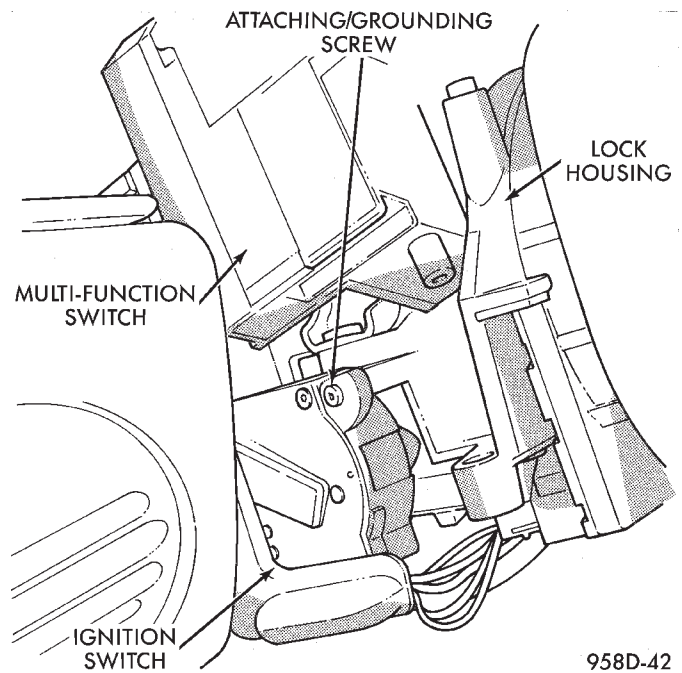
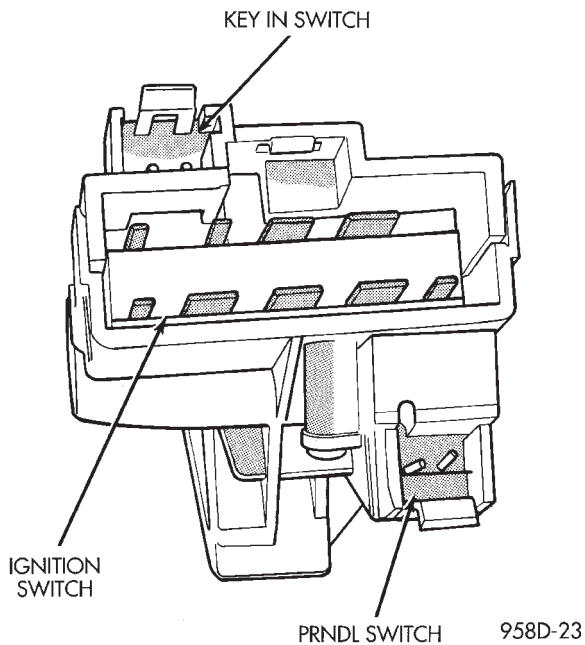
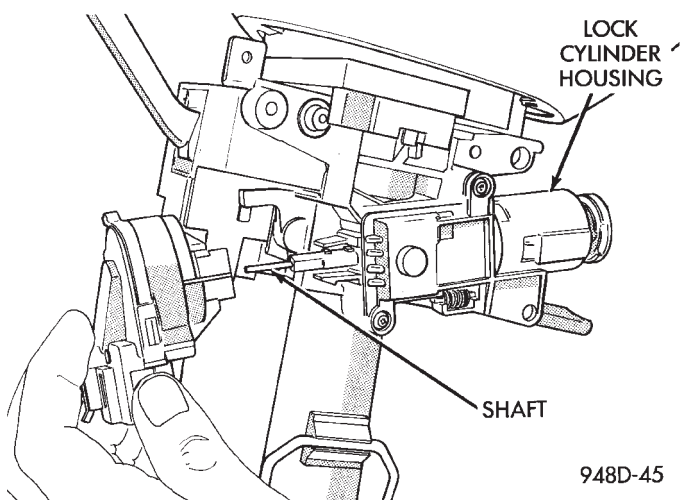

Fig. 60 Ignition Switch
Fig. 61 Ignition Switch Connectors
Fig. 62 Ignition Switch Installation
(13) Disconnect electrical connectors from ignition switch (Fig. 60) and (Fig. 61).
(14) Remove ignition switch mounting screw (Fig. 60) with a #10 Torx® tamper proof bit.
(1) Ensure the ignition switch is in the RUN position and the actuator shaft in the lock housing is in the RUN position.
(2) Carefully install the ignition switch. The switch will snap over the retaining tabs (Fig. 62). Install mounting screw (Fig. 60).
(3) Install electrical connectors to ignition switch.
(4) Install upper and lower shrouds.